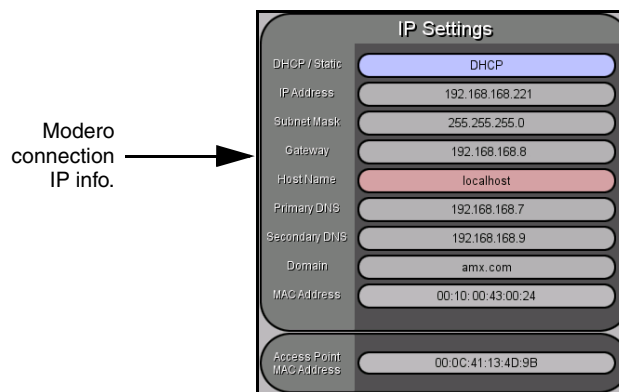

FIG. 56 Secondary Connection page (IP Settings section)
3. Press the **Secondary Connection** button (located on the lower-left) to open the Secondary Connection page. Wireless communication is set within the IP Settings section of this page (FIG. 56).